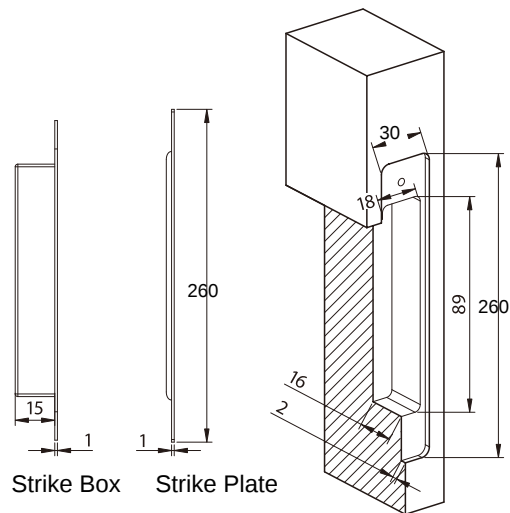

Fig. 2
1. Drill the strike box recess: depth 15 mm, length 126 mm (see Fig. 2 & 3).
2. Install the strike plate: width 23 mm, length 127 mm (see Fig. 2).